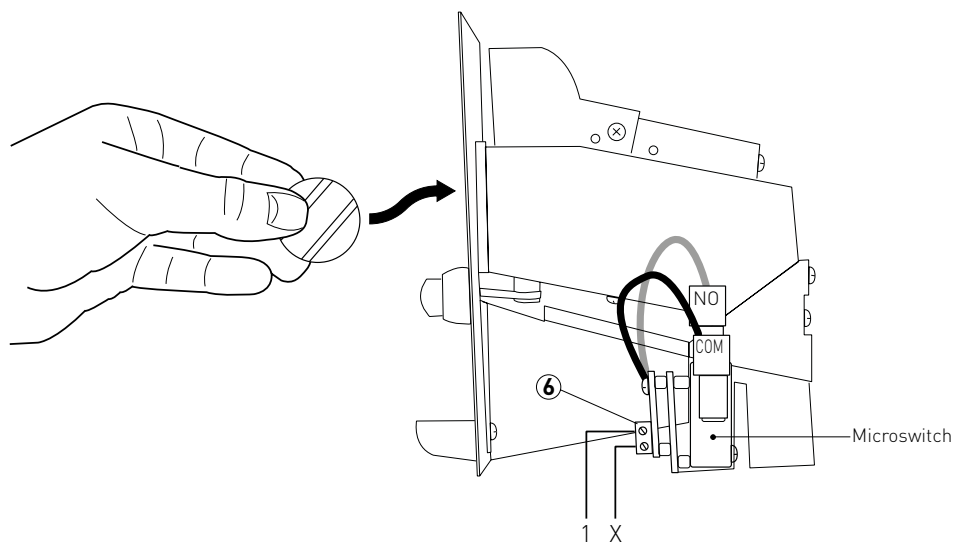

fig. 2
4. COLLEGAMENTI ELETTRICI (fig. 2)
4. ELECTRIC CONNECTIONS (fig. 2)
4. RACCORDEMENTS ELECTRIQUES (fig. 2)
4. ELEKTRISCHE ANSCHLÜSSE (Abb. 2)